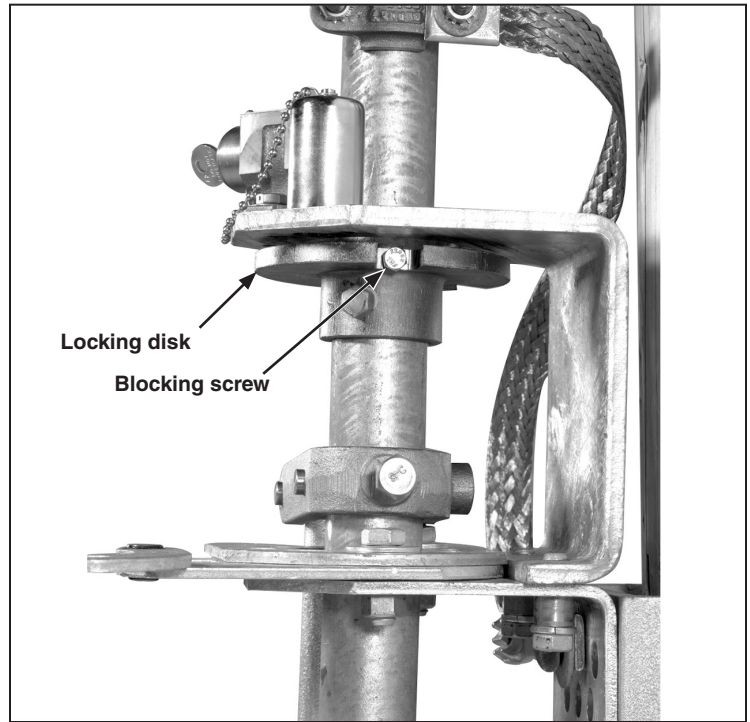

Figure 30. Use the blocking screw to block one of the slots in the interlock disc
STEP 26. Block one of the two slots in the locking disc with the blocking screw provided. (The slot to be blocked depends on whether a locked-open or locked-closed arrangement is required.) See Figure 30.